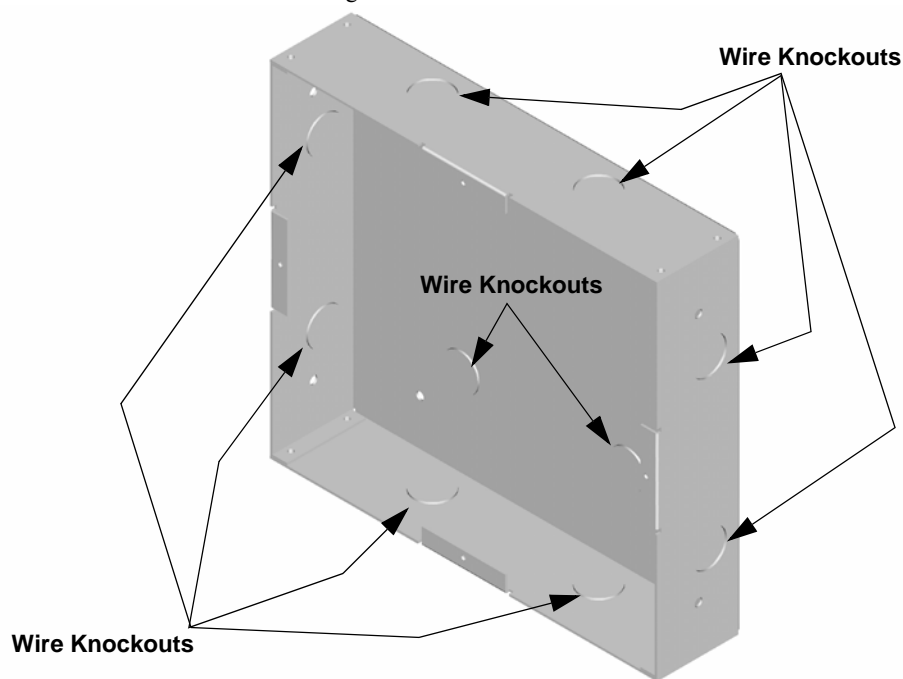

Figure 4.24 Back Box Knockout Locations
2. Remove knockout holes as needed for wires. See Figure 4.24 for backbox knockout locations.